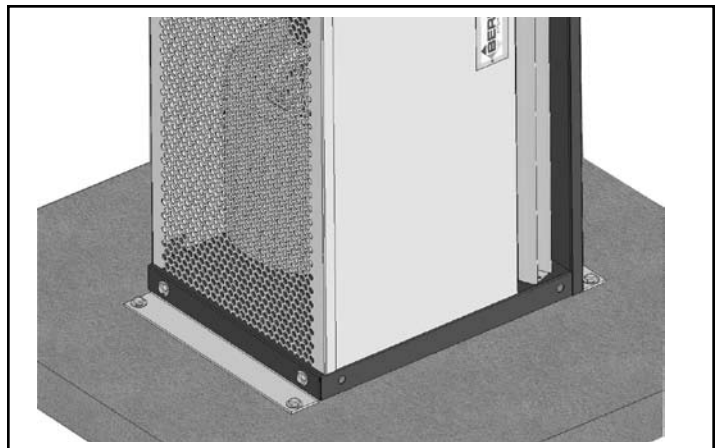

FIGURE 6 - Floor Mounting
- D. Position the unit vertically in its intended position and anchor it to the floor with a minimum $\frac{3}{8}$ " fastener. **See Figure 6.**